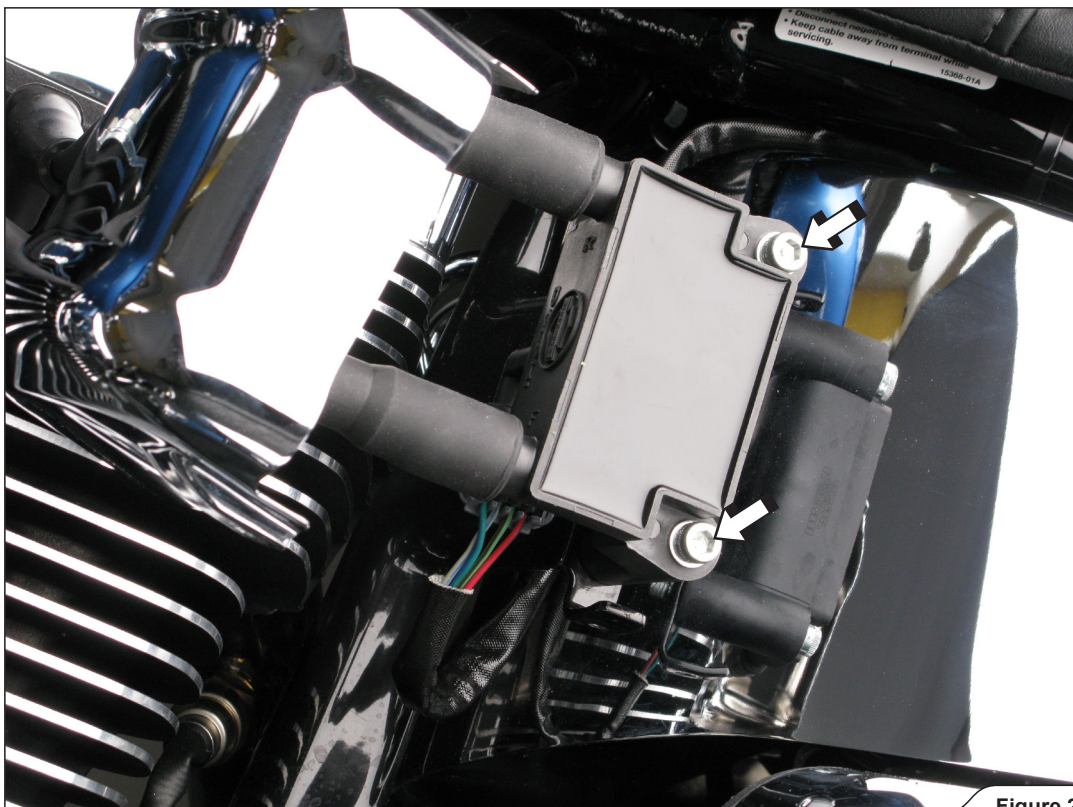

Figure 2
3. Unscrew the marked coil bolts (**Figure 2**).